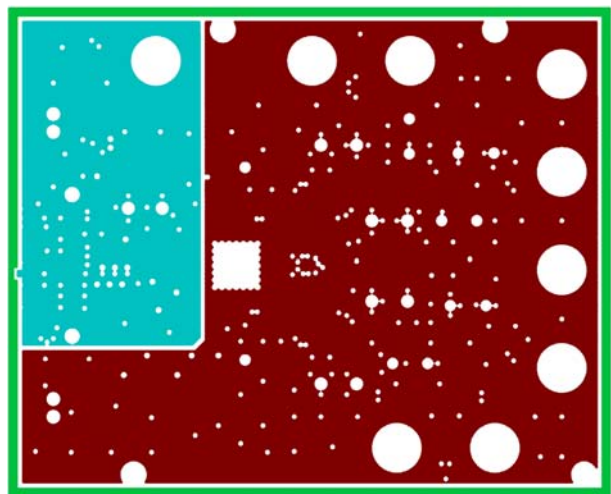
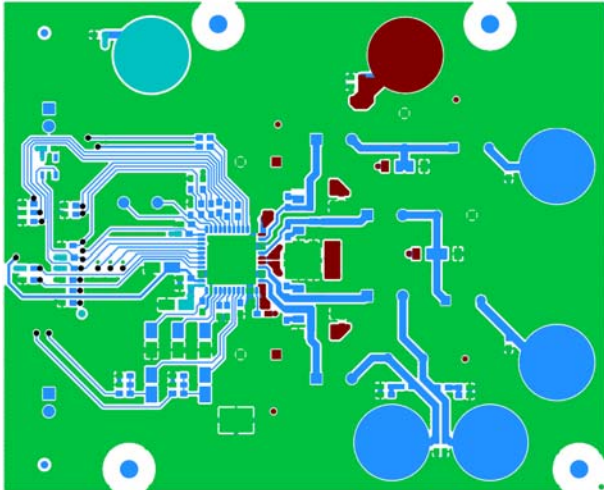
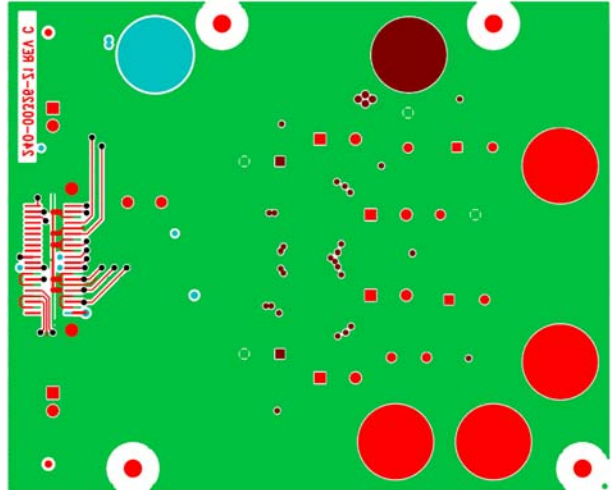
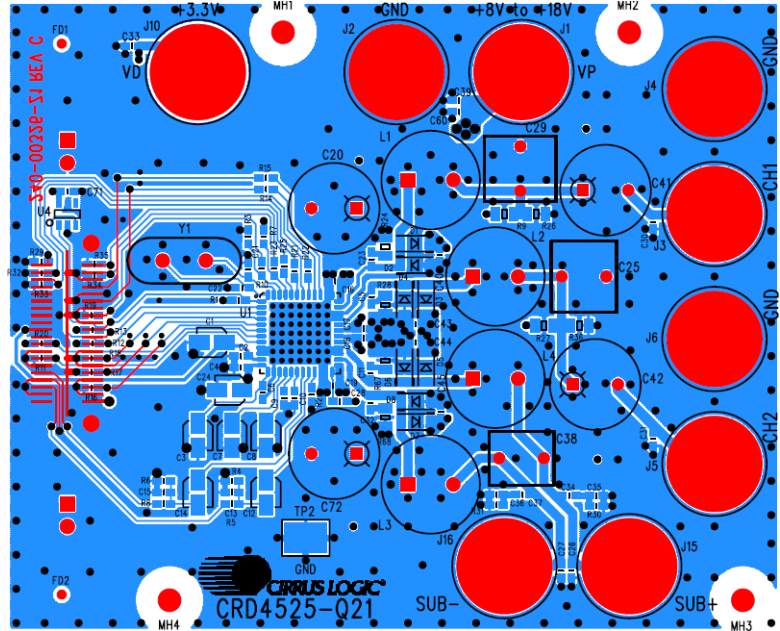

Figure 17. Layer 3 (VD, VP, and GND Ring)
Figure 18. Layer 1 (Top Layer)
Figure 19. Layer 4 (Bottom Layer)
Figure 20. CRD4525-Q21 Component Placement, Routing, and Ground Stitching
To even further prevent high frequency energy from escaping from the sides of the board, ground stitching with a barrier strip on the power plane can be implemented. An example of a barrier strip can be found on the CRD4525-Q21 board in Figure 17; this is the green ring of ground surrounding the blue and brown power planes. The ground stitching can be found in Figure 20.
Figure 18 and Figure 19 contains the copper filled layout of the top and bottom layers of the CRD4525-Q21 board. Note that all of the signals in the vicinity of the CS4525 reside on the top layer. Figure 20 highlights all of the via connections on the CRD4525-Q21 board.
Additional **ground stitching should surround the differential speaker outputs**. This will reduce the potential for high frequency energy on the board to radiate off of the board. As with most of the layout, the stitching is more important and has a greater impact between the CS4525 and inductors than between the inductors and the speaker outputs. This is due to high frequency energy being attenuated by the low pass LC filter. Figure 20 illustrates the ground stitching throughout the CRD4525-Q21 board.
**Via stitching under the CS4525 is necessary in order to help dissipate thermal energy** produced by the switching output FETs of the Class D amplifier. A majority of the energy dissipated will flow through the board and radiate out from the bottom layer. In order to provide a good thermal conduction path, a grid of solid ground vias should be placed under the CS4525. Do not use vias with thermal reliefs. Figure 20 shows the 7 x 7 via array that is implemented on the CRD4525-Q21.